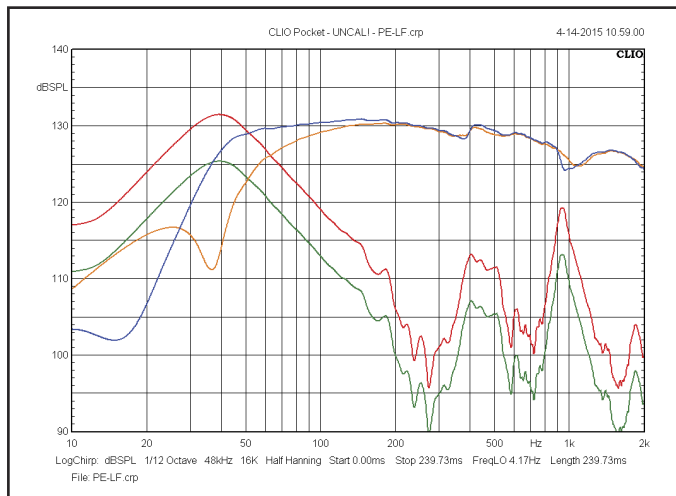

Figure 10: Near-field measurements and final low-frequency response
**Figure 10** shows the measured near-field port response (red), the port response reduced by 6.14 dB using CLIO Pocket's "dB shift" math option (green), and the near-field woofer response (orange). Now using the "add file" math post-processing option, the near-field woofer response, and the scaled port response are added to get the final low-frequency response estimate (blue).